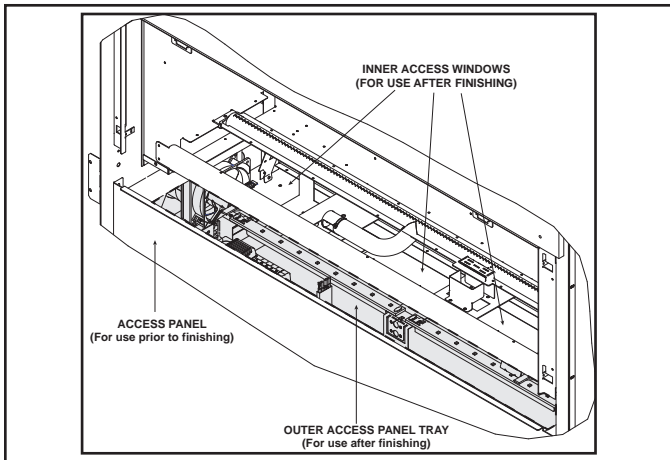

Figure 11.2 Gas and Electrical Access
The lower access cover panel is removable if finishing material is not installed. See Figure 11.2.
2. Remove the base pan. It is attached with 14 screws to the interior firebox bottom and with 19 screws to the burner assembly. If your appliance is a model that has the glass rock media, you must also remove the pilot shield cover at this time. See Figure 11.2 and Figure 11.3.
4. Remove access panel covers or glass windows, along with gaskets. Gaskets may be fragile. Handle with care. See Figure 11.2.
In the event that the junction box may need to be accessed or installed after finish methods have been applied, access is possible by removing the valve assembly (See Figure 11.2).